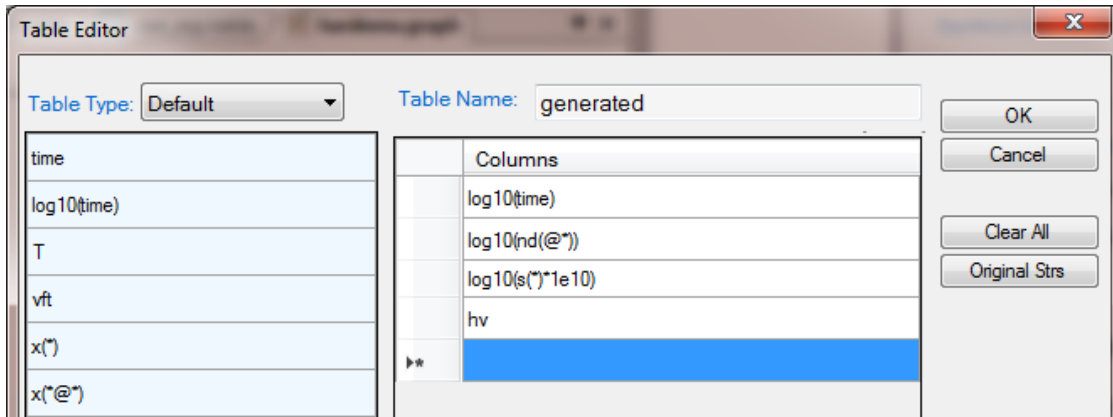

Figure 3.4.3: Create a new table
- Create a new table as shown in Figure 3.4.3, and plot the $\log(t)$ vs. $\log(nd)$, $\log(t)$ vs. $\log(size)$, and $\log(t)$ vs. hv ;